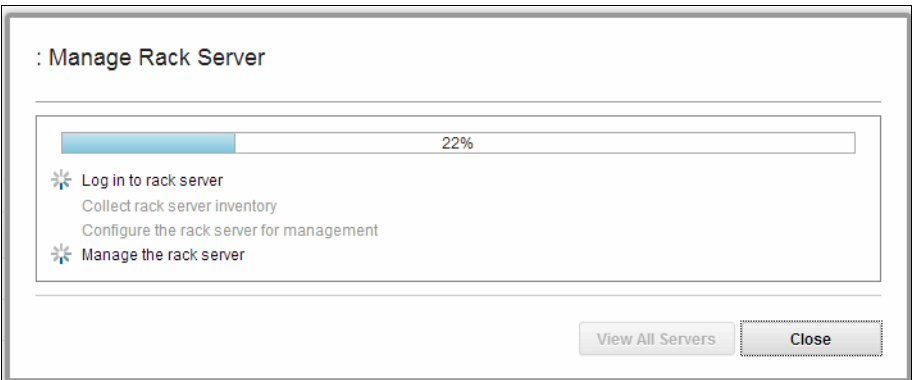

Figure 7-7 Successful discovery
6. When the discovery process finishes and LXCA discovers the XCC, you see a confirmation message, as shown in Figure 7-7.